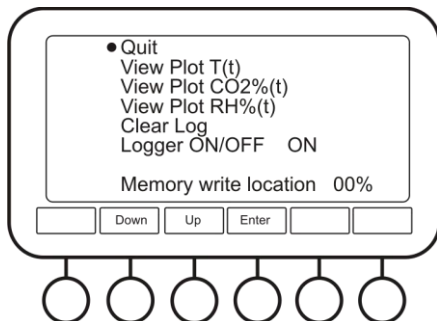

Figure 12. Data Logger
5.9.5. **Data Logger** (fig. 12). Data logger features following options: View Plot T(t), View Plot CO₂%(t), View Plot RH%(t), Clear log, Logger on/off.